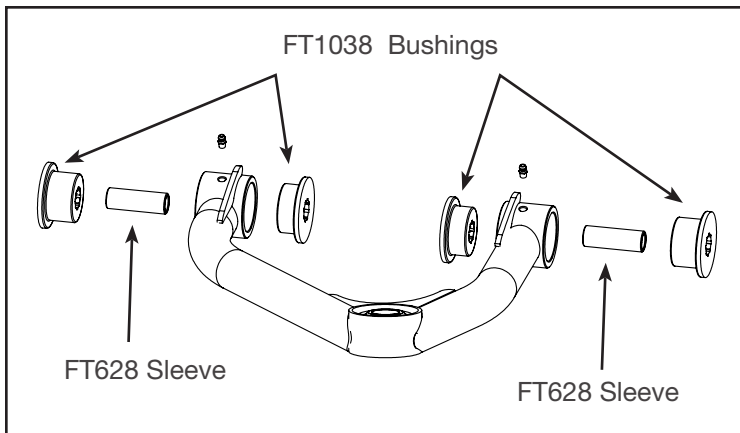

FIGURE 8 - STEP 9
- Locate the new FT20902 (Driver control arm) & FT20903 (Passenger control arm). Open the supplied FT90170 (Bushing Kit) install 4 bushings, 2 sleeves and 2 FT84 (Zerk fittings) into each arm. **NOTE: Coat the new bushings and sleeves using the supplied grease packet. SEE FIGURE 8**